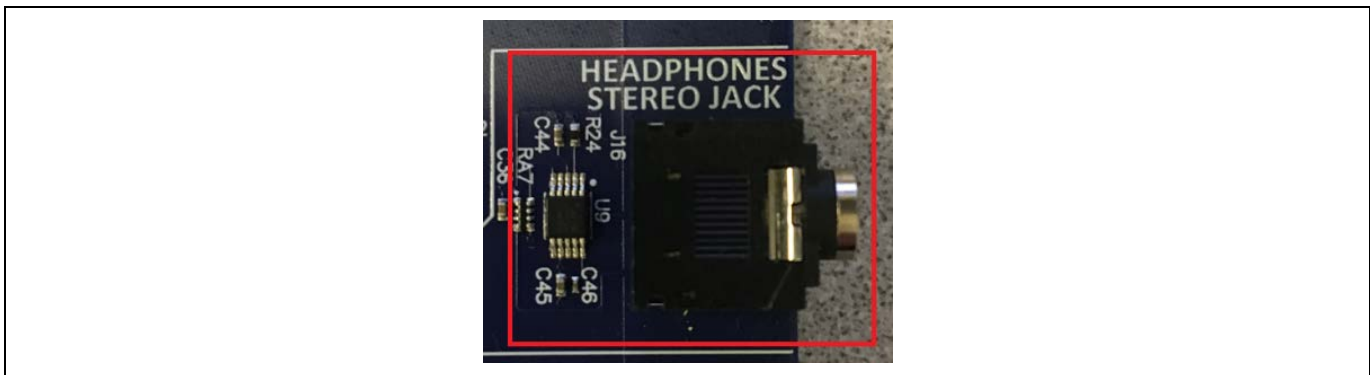

Figure 18 Connecting headphones or external speaker
3. Connect speakers or headphones to J16 using a 3.5 mm jack plug as shown in Figure 18 following.